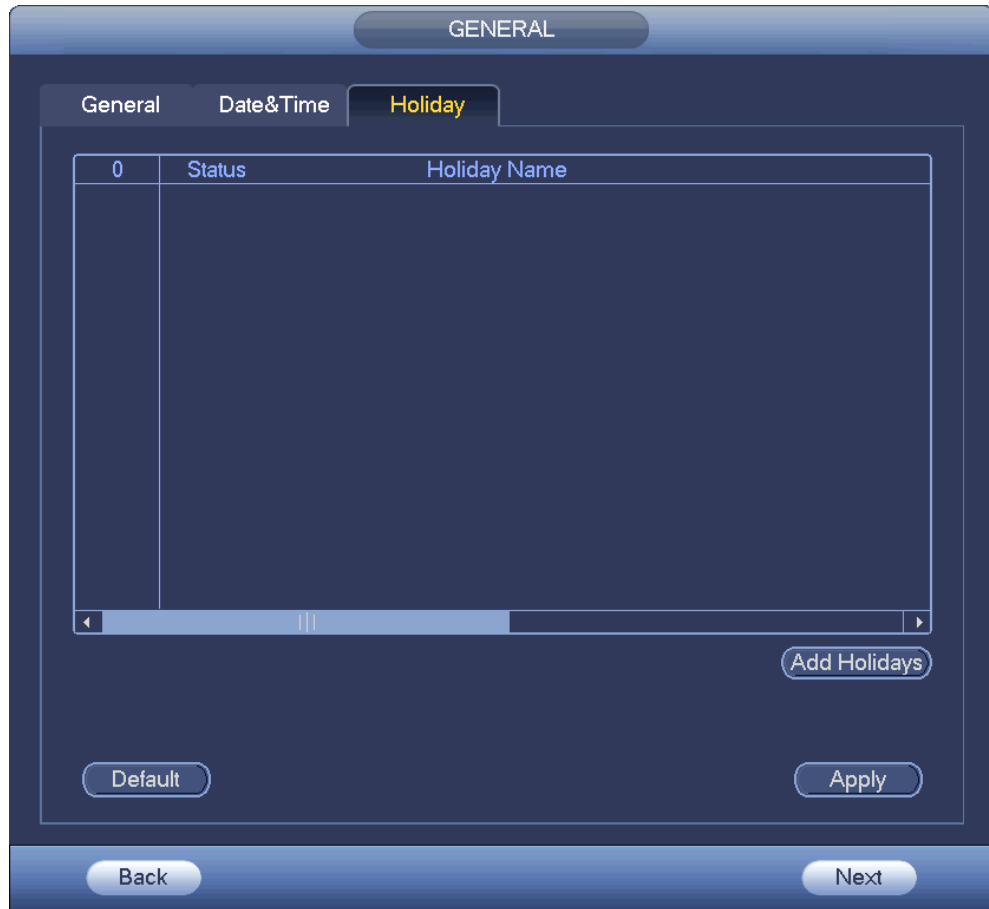

Figure 4-14
Step 1 Click Holiday button. See Figure 4-14.